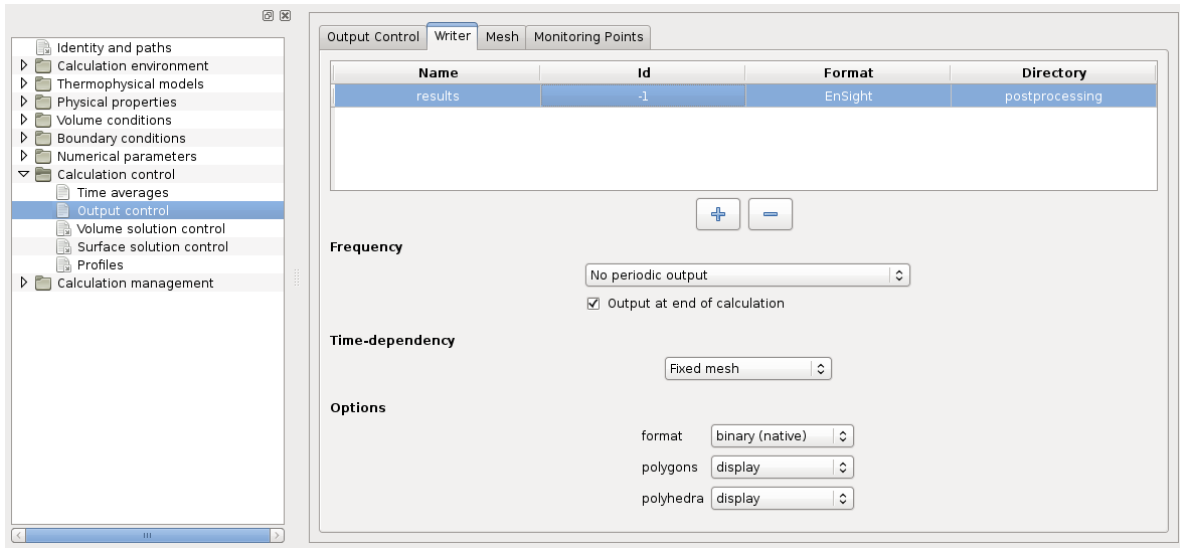
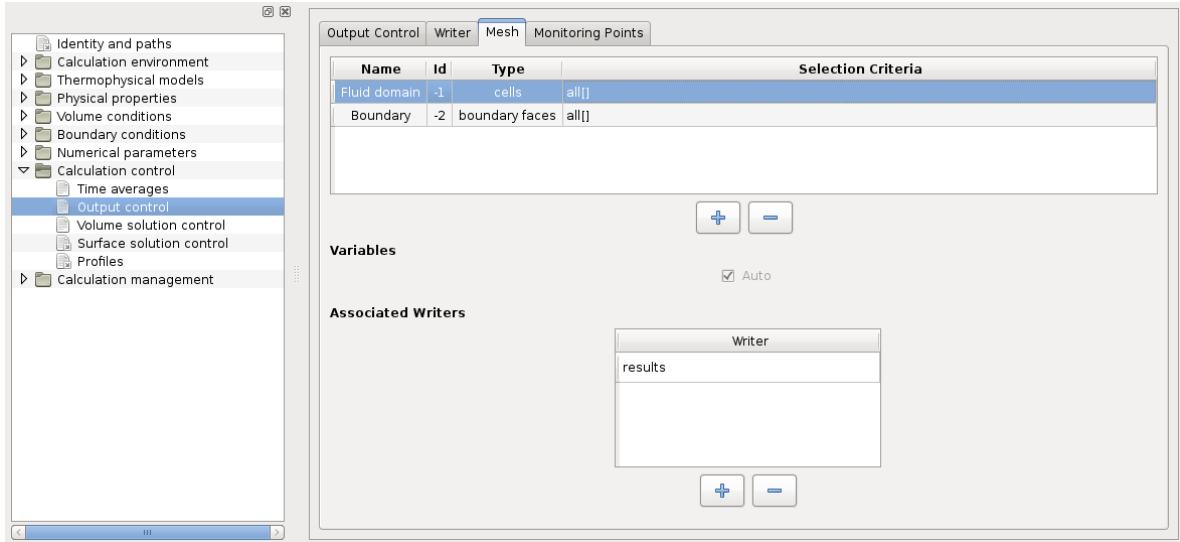

Figure 25: Management of postprocessing writers
Figure 26: Management of postprocessing meshes
- Calculation control: parameters related to the time averages, the locations of the probes where some variables will be monitored over time (if the GUI is not used, this information is specified in § 6.3), the definition of the frequency of the outputs in the calculation listing, the post-processing output writer frequency and format options, and the post-processing output meshes and variables selection, see Figure 23, Figure 24, Figure 25, and Figure 26. The item "Profiles" allows to save, with a frequency defined by the user, 1D profiles on a parametric curve defined by its equation, see Figure 27.